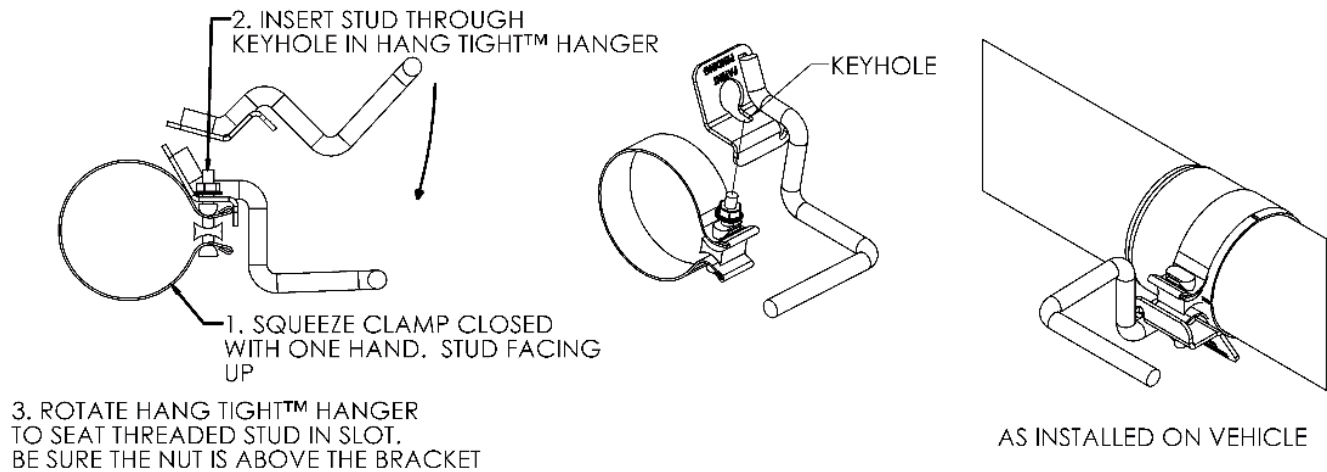

Figure 1 (Hang Tight™ Hanger not exactly as shown).
4. Install the **Muffler** over the **Extension Pipe** so that the exhaust will flow smoothly over the louvers. Attach the **Muffler** using the **4" Hang Tight™ Hanger**. (see **Figure 1** for Hang Tight™ instructions) Install the **4" Hang Tight™ Hanger** into the existing rubber isolators.